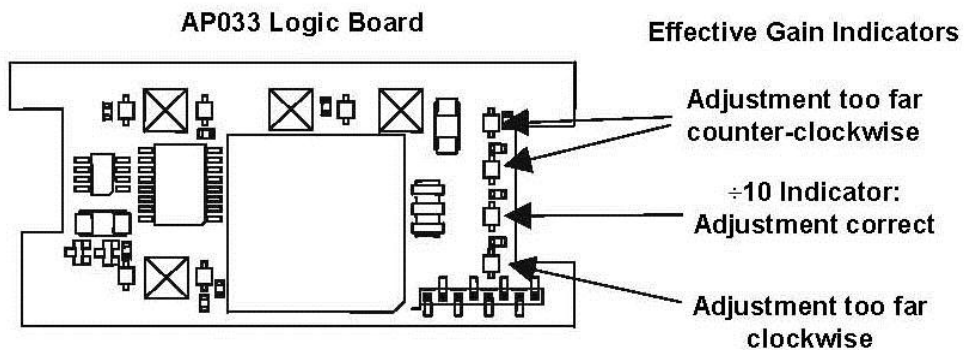

Figure 10, ÷11Effective Gain Indicator
5. Using a low capacitance screwdriver, adjust **Coarse DC Bal** (R226) on the Amplifier Board for an output voltage of  $0\text{ mV} \pm 10\text{ mV}$  (Figure 10).
7. Using a low capacitance screwdriver, adjust **Fine DC Balance** (R304) until the **10 EFFECTIVE GAIN** indicator lights (Figure 10).